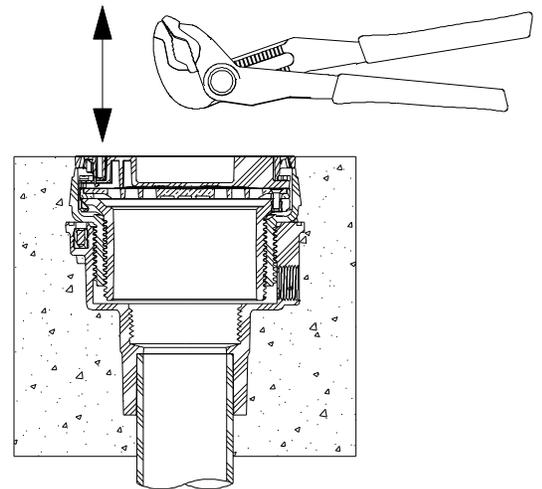

Fig. 5
5. Hit the top of the rough-in cover with a pair of adjustable pliers to loosen bond with the concrete. Continue hitting the rough-in cover until a visible crack forms around the entire circumference of the rough-in cover. The rough-in cover should appear loose (separates up from concrete). See Fig. 5